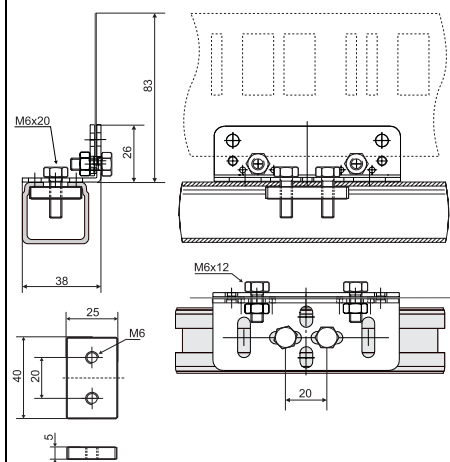

Fig. 3
- WCS-MB2: angle for straight section with mounting system for installation in C profile rail 30 x 32 mm (Fig. 3).